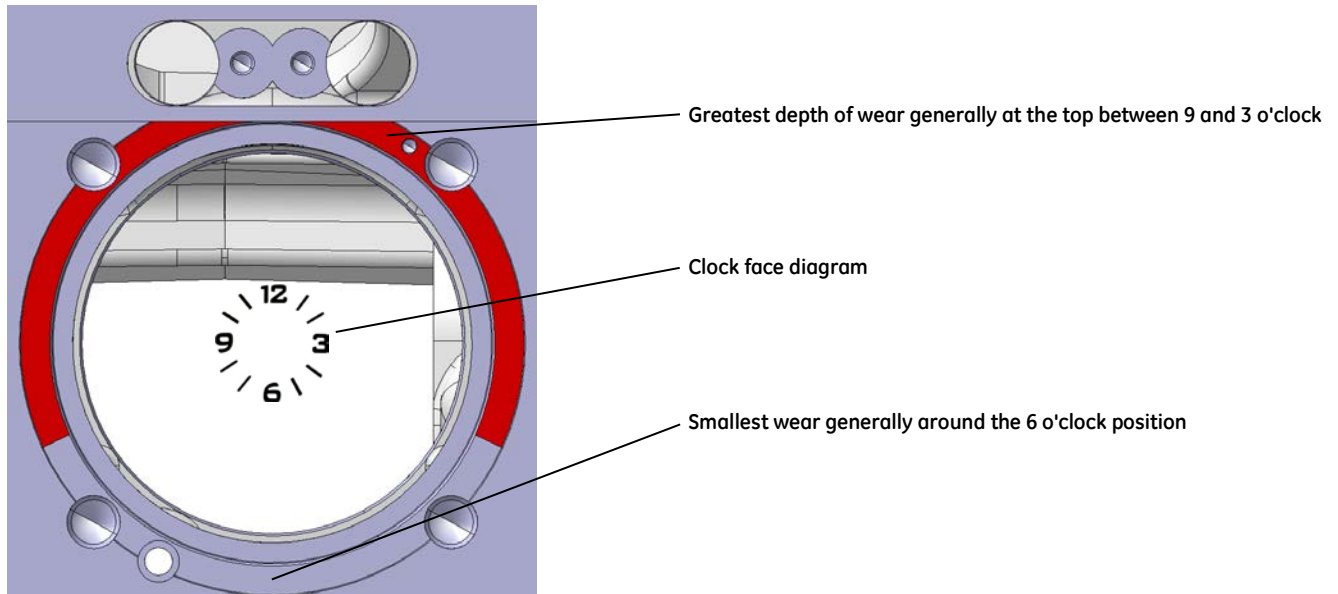

Figure 08: Crankcase – greatest wear between the 9 and 3 o'clock positions
- Note the position of the greatest wear as shown in Figure 08